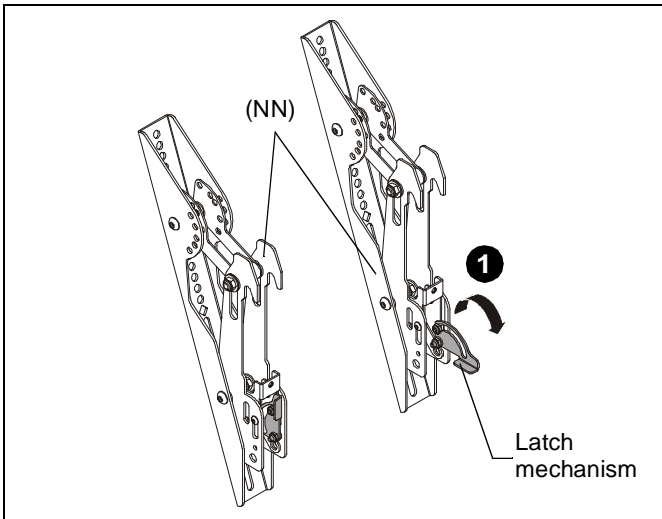

Figure 13
1. Lower the latch mechanism on each interface bracket (NN). (See Figure 13)
1. Ensure that the latch mechanisms on interface brackets (NN) are already lowered. (See Figure 13)